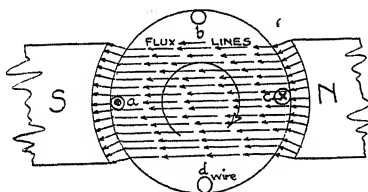
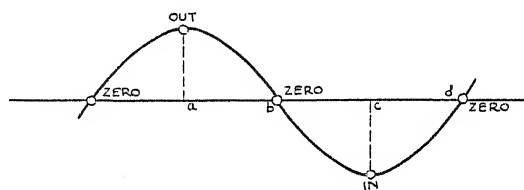

FIG. 68. All generators develop a.c. in their armatures.
FIG. 69. The graph of an alternating current.
**78. Producing Alternating Current.** Strange as it may at first seem, all generators, whether d.c. or a.c., really generate only a.c. inside the armature. Examine Figure 68, and the reason for this will soon be seen.
In Experiment 27, it was shown that when a wire moves upward through flux, as at  $a$  in Figure 68, the current will flow out of the wire as shown. The very same thing is true of a wire on an armature, turning in a clockwise direction, as in Figure 68. If the flux ( $N$  to  $S$ ) is as shown, by applying the Right-Hand Rule for generators, the current is seen to flow as shown at  $a$ .
current in the wire. Now the generated current will flow into the page in Figure 68, position *c*. Check this with the Right-Hand Rule for generators.
a	out of page (Fig. 68)
**81. The Commutator as an Automatic Switch.** Examine Figure 68 again. Notice that when the wire turns from place *a*, to *b*, to *c*, to *d*, and to *a* again, and so on, an alternating current is generated. This whole story can best be shown by a graph, as in Figure 69. In this graph, which refers also to Figure 68, the + side of the curve represents current out of the page in Figure 68, and the — side of the curve represents current into the page in Figure 68.